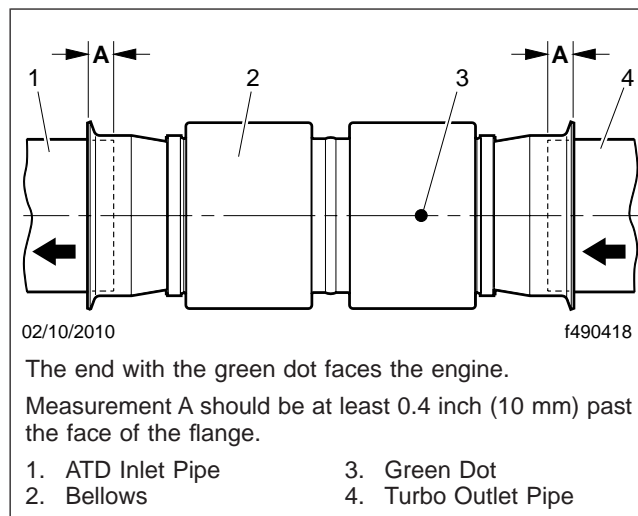

Fig. 6, EPA10 Exhaust Bellows
9. Slide the new bellows onto the ATD inlet pipe as far as it will go. See Fig. 6.
15. Using the yellow marks, center the bellows between the exhaust pipes. Verify that the pipe is inserted at least 7/16 inch (10 mm) past the face of the flange. See Fig. 6.